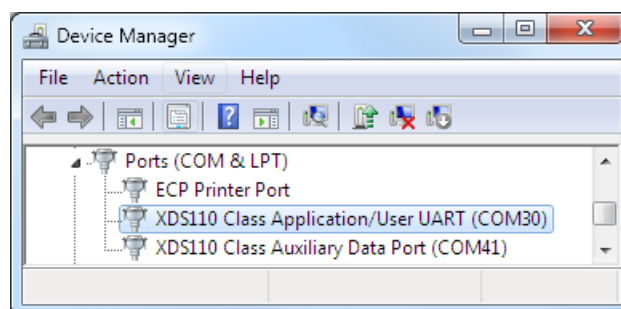
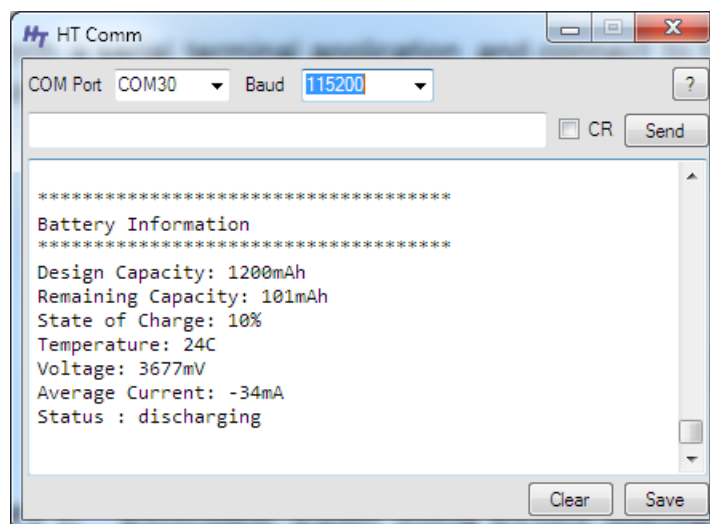

Figure 6. Determine COM Port Number Using Device Manager on Windows
Figure 7. Example Serial Terminal Configuration
4. Launch a serial terminal application and connect to the COM port for "XDS110 Class Application/User UART" at 115200 baud rate (see Figure 6 and Figure 7).